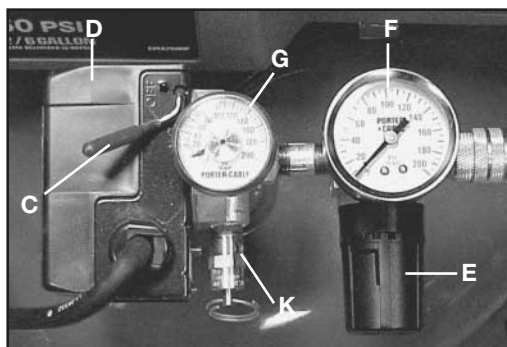

Fig. 3
ON/AUTO-OFF Switch (C) Fig. 3: Turn this switch ON to provide power to the automatic pressure switch and OFF to remove power at the end of each use.
Pressure Switch (D) Fig. 3: The pressure switch automatically starts the motor when the tank pressure drops below the factory set “cut-in” pressure. It stops the motor when the air tank pressure reaches the factory set “cut-out” pressure.
Regulator (E) Fig. 3: The air pressure coming from the air tank is controlled by the regulator. Turn the regulator knob clockwise to increase pressure and counterclockwise to decrease pressure. To avoid minor readjustment after making a change in pressure setting, always approach the desired pressure from a lower pressure. When reducing from a higher to a lower setting, first reduce to pressure less than that desired, then bring it up to the desired pressure. Depending on the air requirements of each particular accessory, the outlet regulated air pressure may have to be adjusted while operating the accessory.
Outlet Pressure Gauge (F) Fig. 3: The outlet pressure gauge indicates the air pressure available at the outlet side of the regulator.
Tank Pressure Gauge (G) Fig. 3: The tank pressure gauge indicates the reserve air pressure in the tank.
Safety Valve (K) Fig. 3: If the pressure switch does not shut off the air compressor at its cutout pressure setting, the safety valve will protect against high pressure by “popping out” at its factory set pressure (slightly higher than the pressure switch cut-out setting).
9. Pull ring on safety valve (K) Fig. 3, allowing air to bleed from the tank until tank pressure is approximately 20 psi. Release safety valve ring.
NOTE: If drain valve is plugged, pull ring on safety valve (K) Fig. 3, and hold until all air pressure has been released. The valve can then be removed, cleaned, and reinstalled.
4. Pull ring on safety valve (K) Fig. 3, allowing air to bleed from the tank until tank pressure is approximately 20 psi. Release safety valve ring.